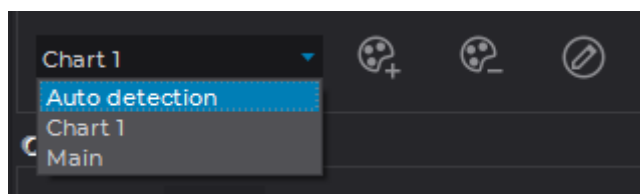

Figure 2.72: Drop-down chart menu
- Click the **Add chart**  button. A new chart will appear at the bottom part of the window, and its name will be added to the drop-down chart menu. The opened menu is shown in Fig. 2.72.